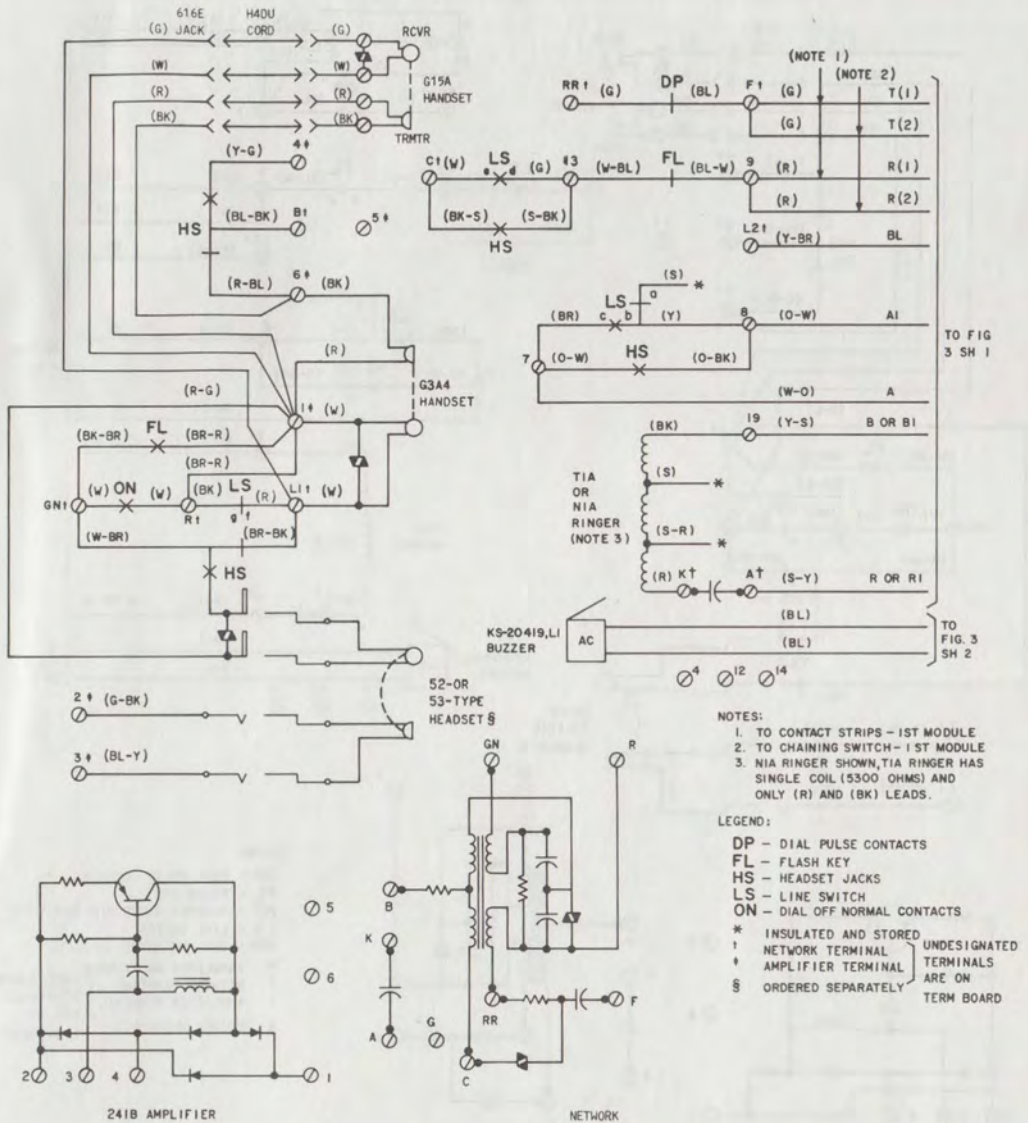

Fig. 1—636CA (MD), CAM (MD), and 637DA (MD), DAM (MD) Telephone Set, Connections
- Show 636CAM and 637DAM telephone sets MD (Fig. 1)
1.03 ♦All four letter coded sets are now furnished from the factory in only the numerical code (1), and all other numerical code sets are rated MD. Sets may be equipped with different modular key arrangements by ordering the appropriate 635-, 658-type key, or 76A lamp socket. Refer to Section 502-601-101 for recommended layout arrangement of field-installed keys.